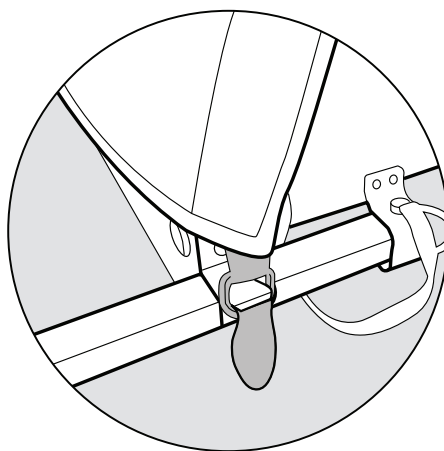

Figure 19
1. Slip the cover D-rings over the hooked corners of the tow bar receivers (Figure 19).